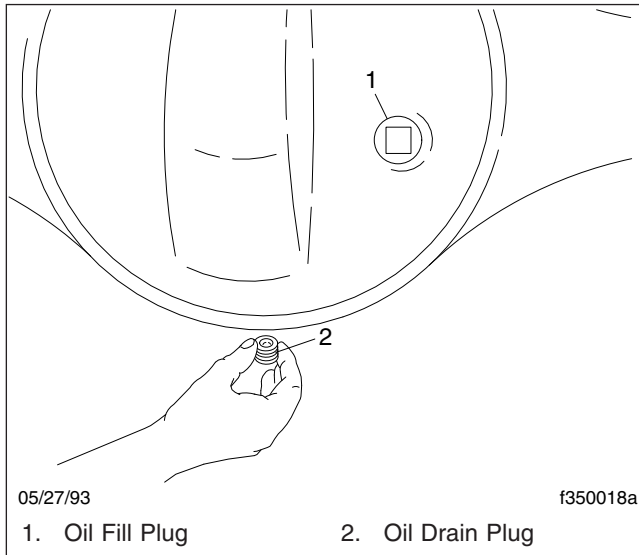

Fig. 4, Axle Housing Drain and Fill Plugs
- 2. Clean the fill plug and the area around it. In the axle housing rear cover, remove the plug from the oil fill hole (or standpipe, if installed in the oil fill hole). See **Fig. 4**.
- 3. Place a drain pan under the rear axle drain plug. See **Fig. 4**. Drain the oil at normal operating temperature, 150 to 200°F (65 to 93°C). At this temperature, the oil will run more freely and ensure that the axle is flushed.